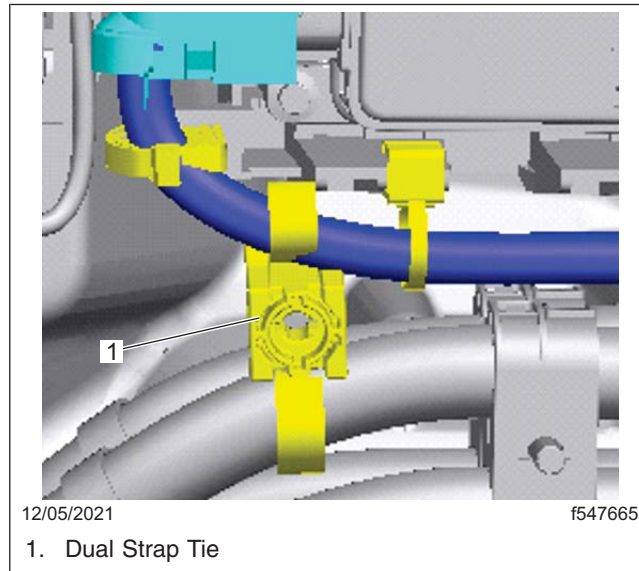

Fig. 8, Installing a Second (Optional) Dual Strap Tie
7. For C- or D-box transmissions with battery cables that route over the power take off (PTO) port and have a cable in the top outboard routing track, install the second dual strap tie on the added harness wrap zone, between the TCU connector support tie and the forward C-clip tie. See Fig. 8.